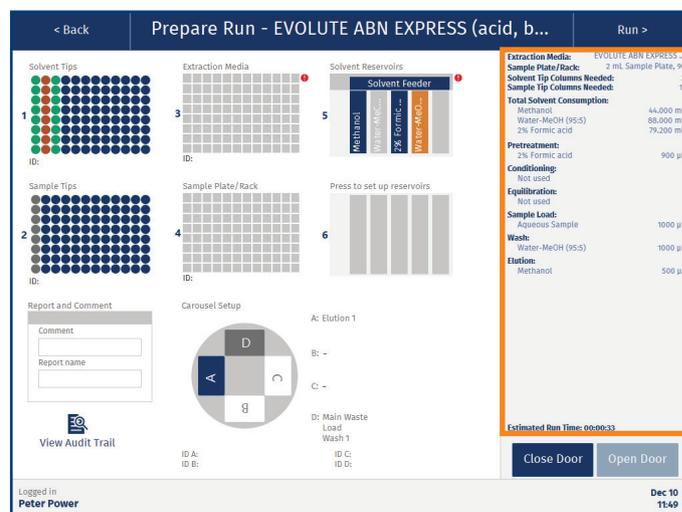

Figure 57. The method summary in the Prepare Run view. The information is updated when the setup is changed. (The Extrahera GLP software is shown.)
10. Load an extraction plate or column rack into position **3** on the working area. Ensure that the correct type of plate/rack is used; see the method summary in the **Prepare Run** view (see Figure 57).
27. Ensure that the solvent bottles (S1-S5) contain the necessary amount of the solvents needed for the run; see **Total Solvent Consumption** in the method summary in the **Prepare Run** view (see Figure 57 on page 32).